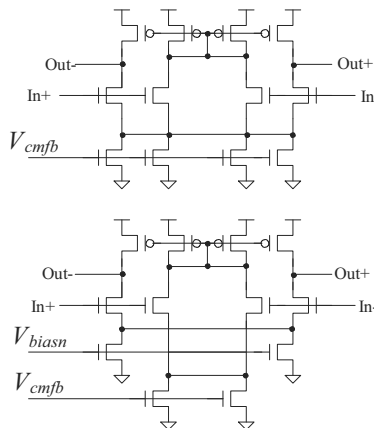

Figure 26.61 Circuits for Problem 26.4.
- 26.4** Comment on the benefits and/or concerns with the CMFB input connections seen in Fig. 26.61. Use simulations to support your answers. Note the similarity to the way CMFB was implemented in Fig. 26.17.